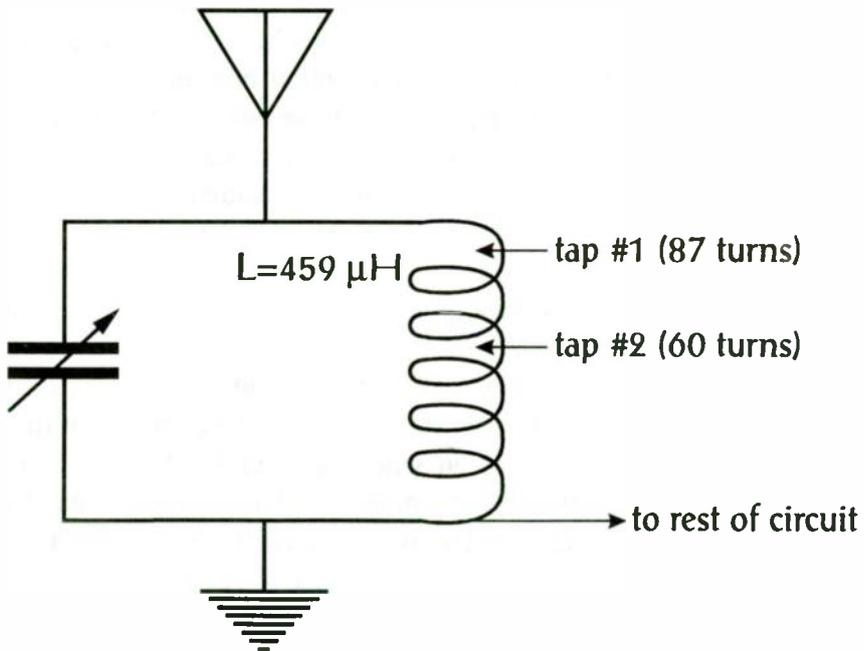

Figure 1: Parallel inductor-capacitor (LC) tank circuit
Trying many different kinds of coils is a favorite pastime of crystal set enthusiasts. Although a coil can be wound on any form, from an old oatbox to a PVC pipe to ferrite, a hard non-conductive substance is a choice many experimenters have tried. Although it is possible to buy ferrite loopstick inductors, it is also possible to design and build your own. Some AM broadcast receivers employ a parallel inductor-capacitor (LC) tank circuit to tune the receiver as depicted in Figure 1.
Referring to Figure 1, when the upper lead of the circuit is tapped at tap #1 (87 turns from the bottom of the coil), the ferrite loopstick